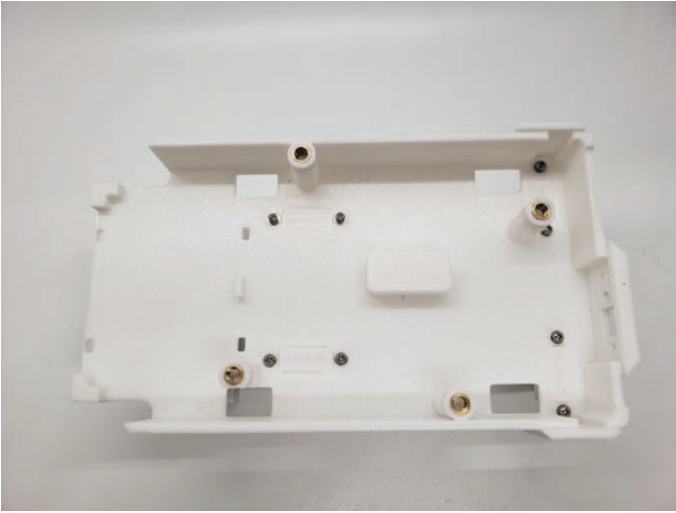

Figure 8-44. *Secure the wheelbases to the chassis using 8 x M2 10mm screws and nuts*
5. Use eight of the M2 10mm bolts and eight of the M2 screws to secure the wheelbases to the chassis. See Figure 8-44.